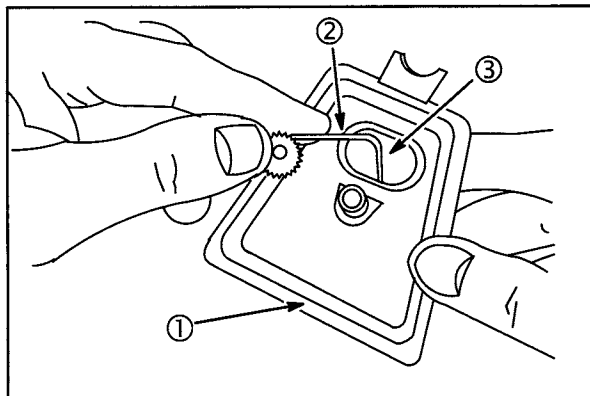

**Fig. 6**
The reed valve is spring loaded and must make a complete seal around the vent hole (1) in breather body, **Fig. 6**. Check to see that reed valve is not deformed.